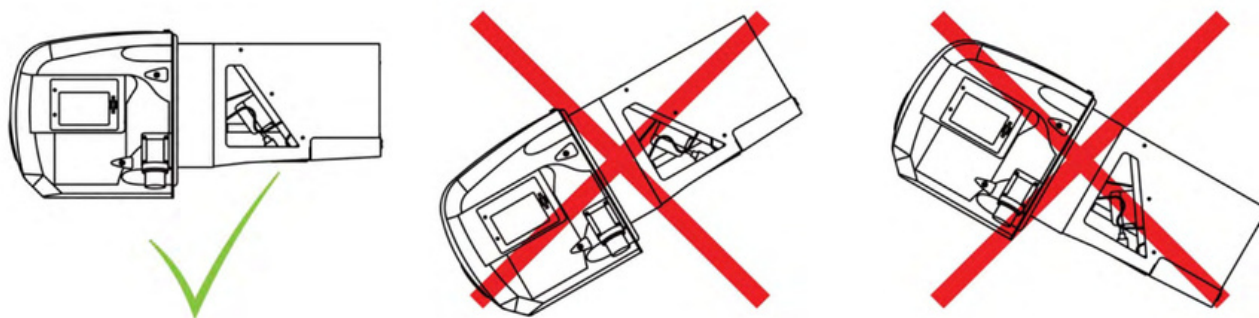

Fig. 4. 2. Transport and storage
- The container refrigeration unit must be stored horizontally, **see Fig. 4. 2.**